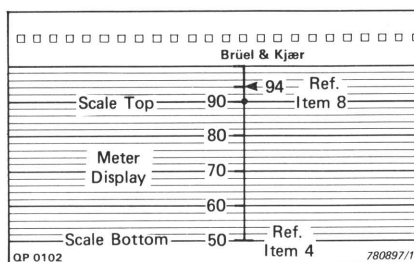

Fig.4.1. Calibrating the Type 2306 using the Type 4230 calibrator
4. Using DC LIN POSITION adjust the pen position to lie exactly on the lower line of the paper. See Fig.4.1.
7. Slide the RANGE SELECTOR of the meter to give the 50 to 90 dB(A) range.
8. Adjust the SENSITIVITY potentiometer on the 2306 so that the pen lies exactly on the third line from the top of the recording paper. This position should be noted as the 94 dB calibration level. See Fig.4.1. The meter will indicate full scale deflection (90 dB(A)), but the DC output will be unaffected i.e. it will give an output corresponding to 94 dB as the instrument has 20 dB extra range over that displayed.